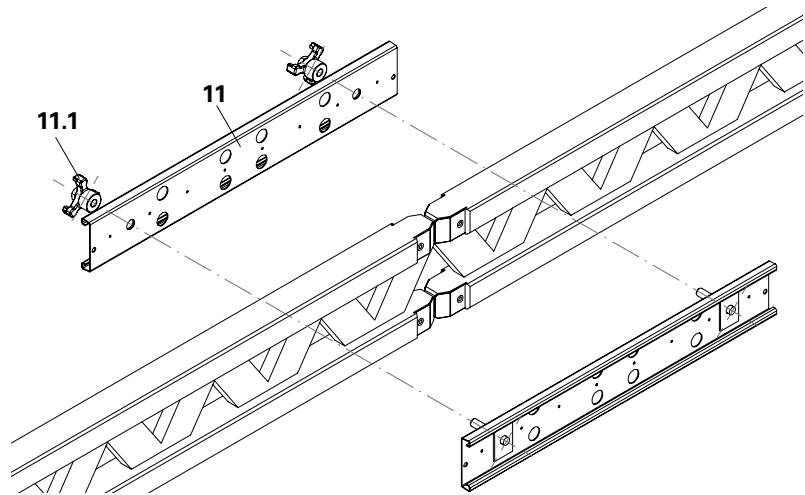

Fig. A4.02
2. Insert extension splice (11) at every girder joint in the latticework.
- (Fig. A4.02 + A4.03)